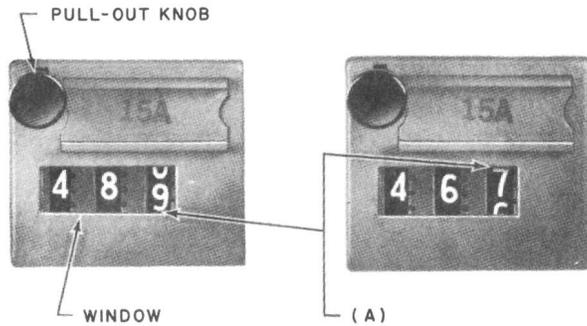

Fig. 1 - Alignment of Number Wheels
2.01 **Alignment of Number Wheels** (registers equipped with cover only): Fig. 1 (A) — With the register in the unoperated position, after having been electrically operated and released, the following requirements shall be met.